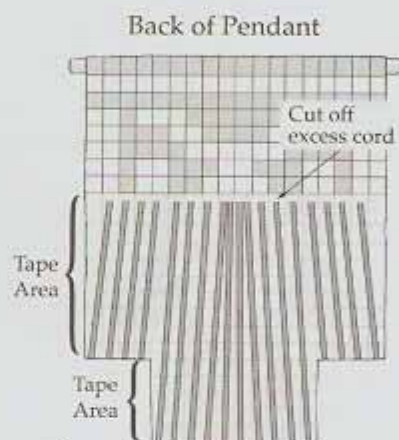

Fig. 8
3. Making a Hem - When a fringe isn't appropriate to the design, you can take all the leftover hanging cords and fold them to the back of the piece as if making a hem (see Figure 8). This method requires that the piece have a large enough area of tight knotting to hide the cords. One method is to cut a piece of Double-Sided Beading Tape and adhere it to the back of the piece. Remove the lining from the tape to expose the sticky surface. Pull the cords to the back one by one and adhere them to the sticky surface. If you don't have tape you can use a thin layer of tacky glue instead. You can then cover up the area by lining the back with a piece of suede. Glue and/or sew the suede in place.